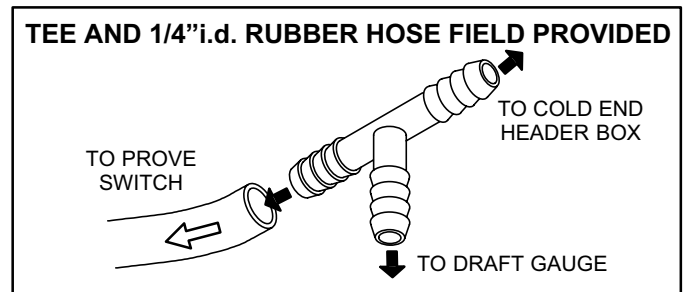

FIGURE 14
- 2 - Disconnect hose from the prove switch and install tee as shown in figure 14.